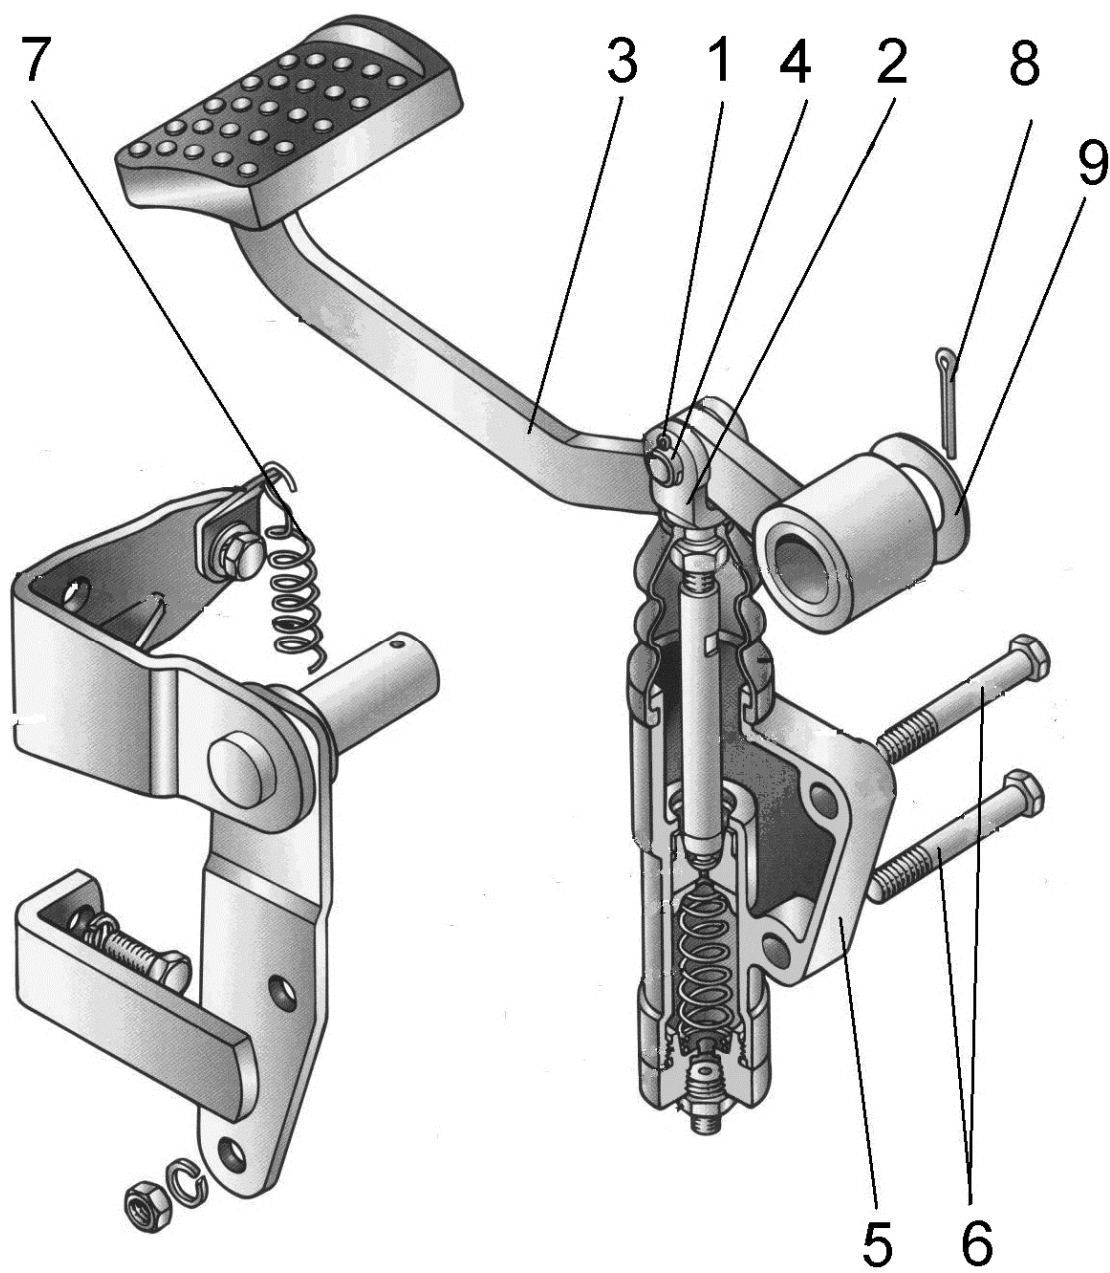

Figure 4.167
- 3) extract cotter pin 1 (Figure 4.167) and disconnect pusher of main reverse cylinder 2 from pedal 3 by pulling out pin 4;